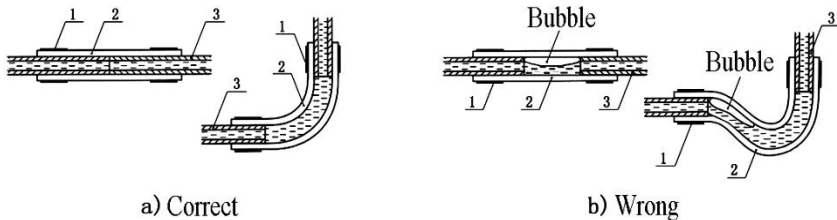

Fig.10
4.5.5 Connect fuel pipe, fuel pump, fuel inlet pipe of the heater and fuel extractor with fuel pipe joint which made of rubber. The connecting place shall be tight without any gap (as shown in Fig. 10). Therefore, the ends of the fuel pipe shall be cut off evenly with a sharp blade to make smooth ends.